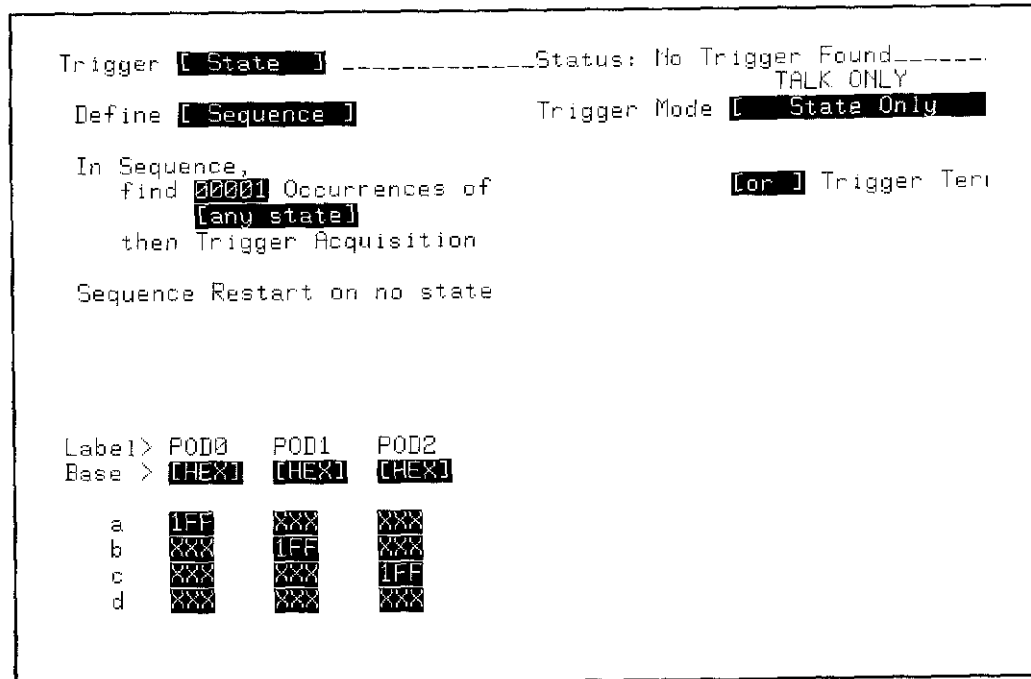

Figure 3-36. TRIGGER State / Define [Sequence] Menu
5. Configure the TRIGGER State / Define [Sequence] menu as shown in figure 3-36.